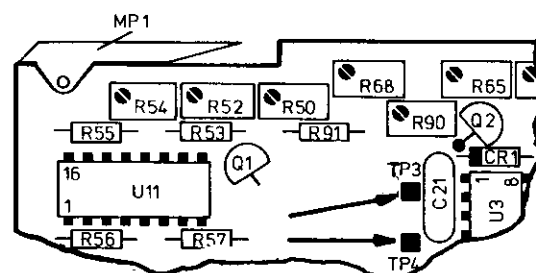

Figure 5-1.
12. Connect DVM between A5 TP3 and TP4. The position of TP3 and TP4 is shown in Figure 5-1.